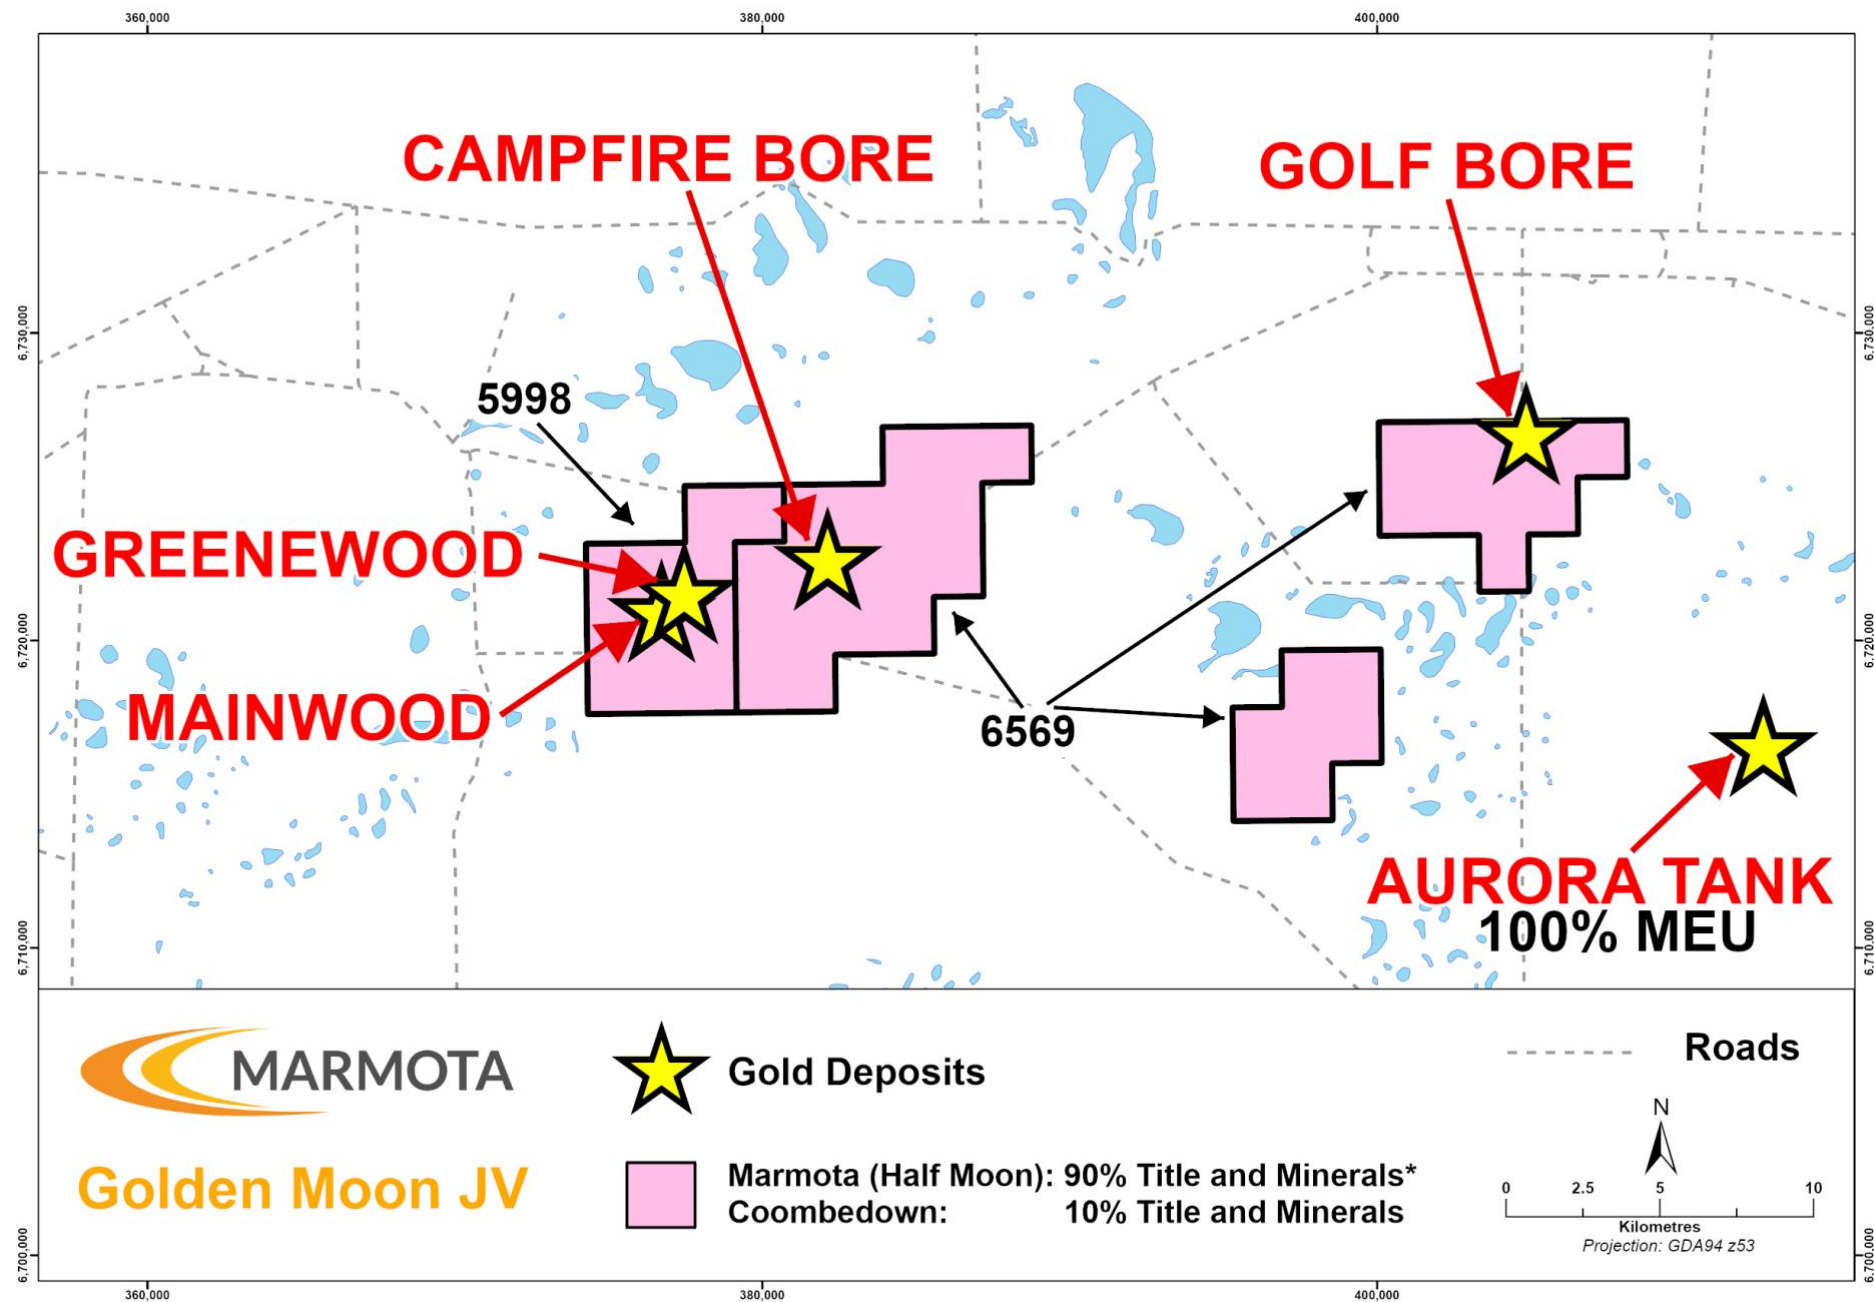

Figure 4: Location of Greenwood, Mainwood and Golden Moon JV deposits adjacent to Marmota's Aurora Tank deposit
- Greenwood and its extension to the south (known as Mainwood) is located ~35km NW of Marmota's flagship Aurora Tank gold deposit and ~30km NE of the Challenger Gold Mine see [Figure 4 & 5].
- The proximity of Greenwood/Mainwood to Marmota's flagship Aurora Tank gold discovery (100% owned) creates obvious economies of scope and scale that are patently attractive see [Figure 4 & 5].
Marmota's Gawler gold project comprises an arc of gold deposits along the flanks of the major 'Y'-shaped gravity anomaly in the NW Gawler Craton. The '**Arc of gold**' deposits include (from east to west: see Fig. 4 and 5):